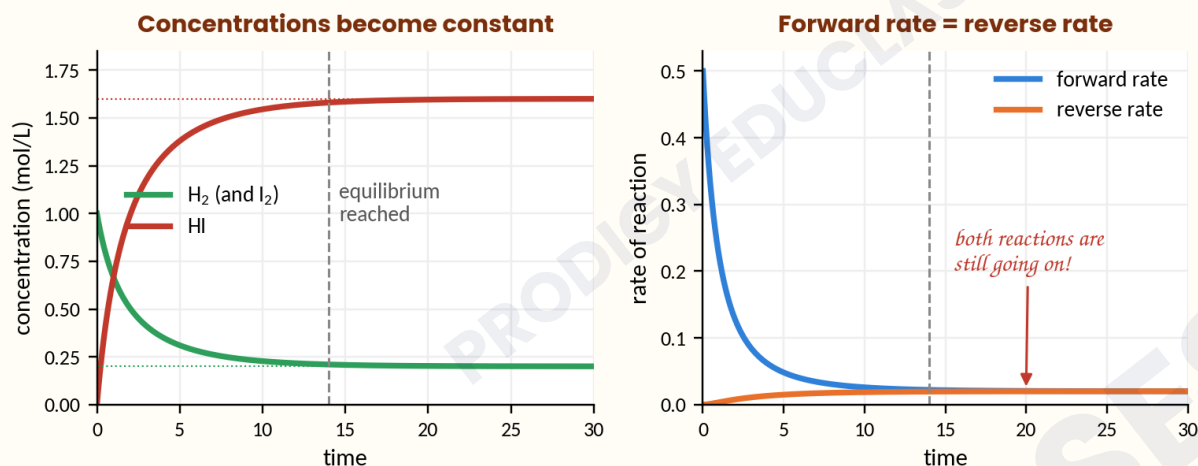

Fig 1. $\text{H}_2 + \text{I}_2 \rightleftharpoons 2\text{HI}$ starting from 1 mol/L each of H_2 and I_2 . The curves flatten when the two rates become equal.
- **Concentrations are constant, but not necessarily equal.** In Fig 1 we end up with 1.6 mol/L of HI and 0.2 mol/L of H_2 .